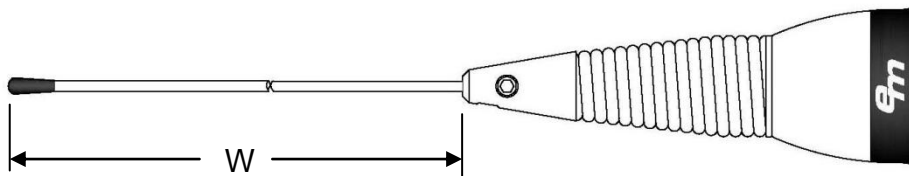

Figure 5
2. **Note:** The tuned length "W" is determined by measuring the distance between the top of the whip adapter and the top of the whip. **See Figure 5.** Cut length dimension will be approximately 1" (25mm) longer than Tuned Length "W".
5. Cut the whip length required to establish the specified Tuned Length "W" as shown in Figure 5. Imperial and Metric Length units are given for convenience.